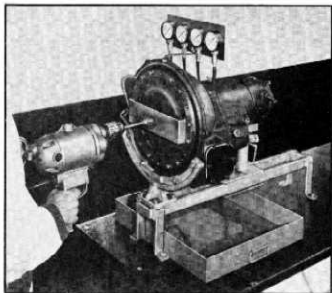

Fig. 144—Revolving Primary Pump
By revolving the primary pump (fig. 144) pressures are built up within the transmission similar to those experienced under actual operating conditions. This enables the mechanic to check the oil pressures in the various ranges and also to determine whether or not any leakage is taking place in the converter section, at the servo cover, side covers, etc.
4. Assemble J-4920, transmission torque converter cover turning tool, to converter as shown in Figure 144.